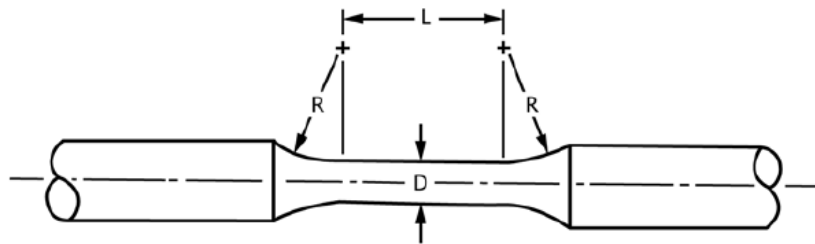

Figure 1
- The specimens shall be machined according to figure 1 and table 1.